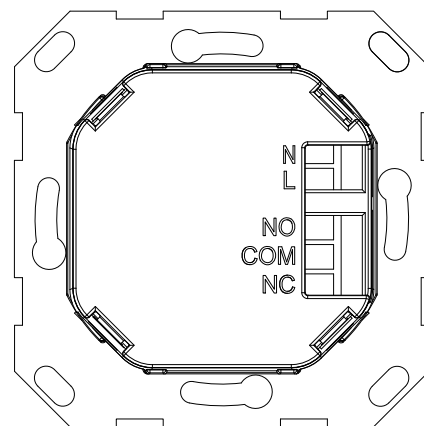

Fig. 2: Rear of flush-mounted insert
- Apply 230 V AC power supply to the L and N terminals on the rear of the flush-mounted insert (see figure 2).
- Actuators are connected via the terminals NO / COM / NC on the rear of the flush-mounted insert (see figure 2 and the 'Zero-voltage contact' section).
The ambient air sensor CO₂ has a zero-voltage contact to which an actuator must be connected. The connection terminals of the zero-voltage contact are located on the rear of the flush-mounted insert (see figure 2).